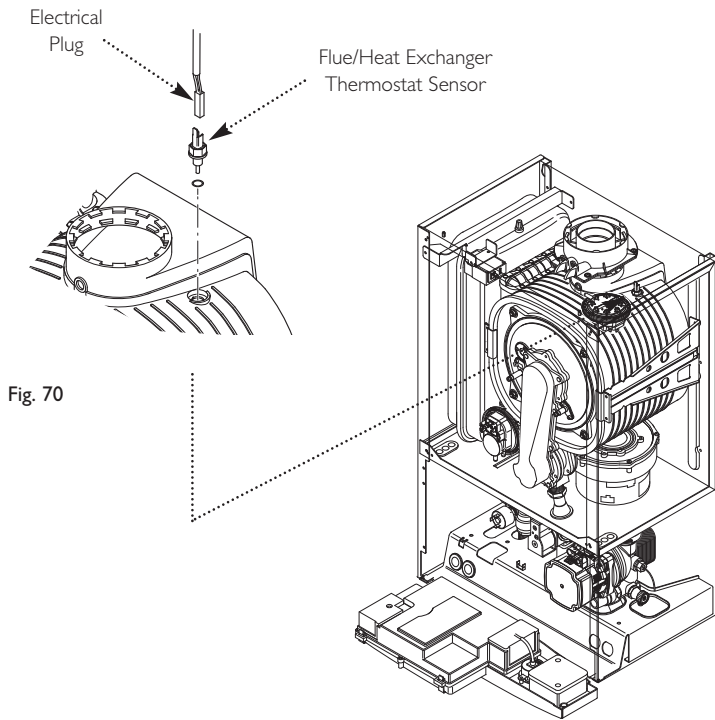

Fig. 70
13.9 Flue/Heat Exchanger Thermostat Sensor (Fig. 70)